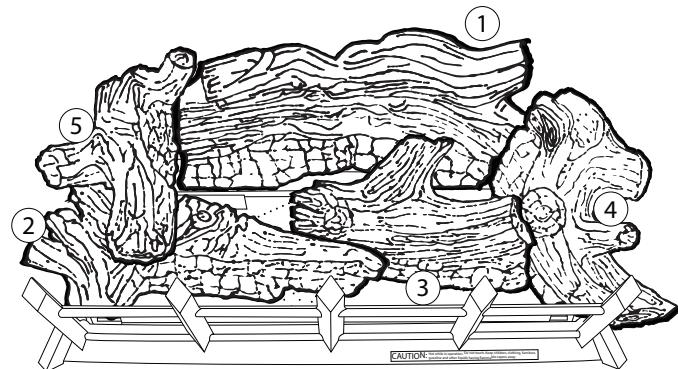

Figure 52.
5. Place the top left log (#5) on the left side of the burner allowing the log to rest on top of the front left log (#2). (See Figure 52)
- (See Figure 52)